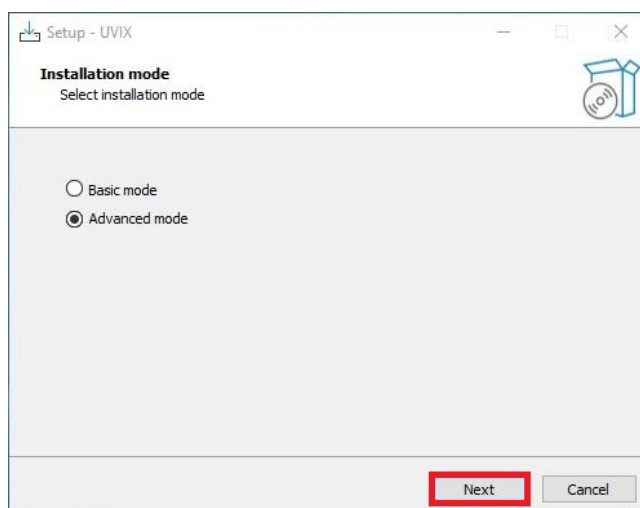

Figure 4.12: Mode Selection
2. Select the "Advanced" mode and click "Next," as shown in figure 4.12.